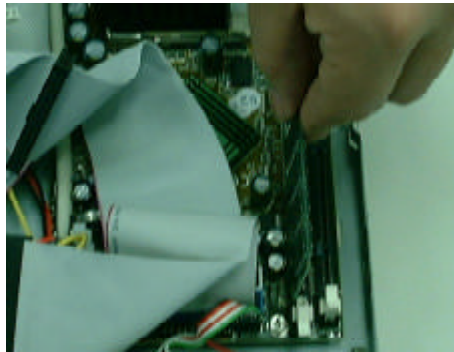

Figure 5-9
9. Installing and removing the memory modules. (See Figure 5-9)